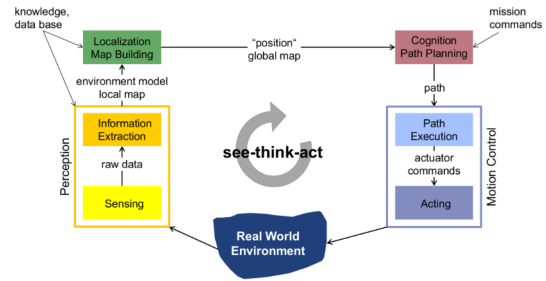

Fig. 1. See-think-act cycle
- 1) Understanding the basic concepts of robotics programming by working with an Arduino - that is, the *See-think-act cycle* (see figure 1). Reading and analyzing data from a range sensor and RGB sensor.
We were to consider the *See-think-act cycle* as can be seen in figure 1 below: